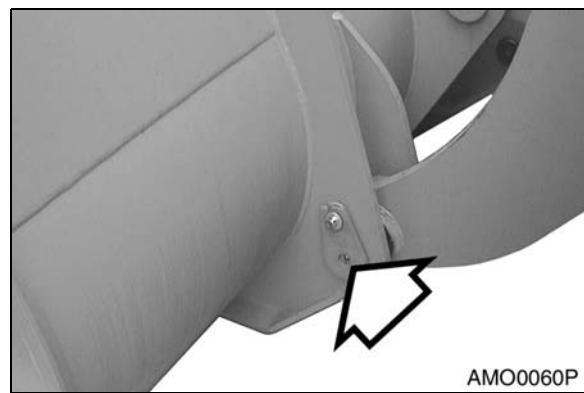

Figure 28
A. Bucket hinge pins, 2 locations (Figure 28).